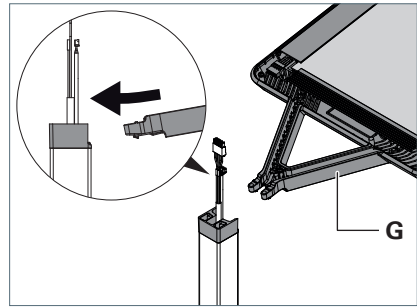

Fig. 3: Mounting the luminaire head.
- Insert the supporting arm **G** of the luminaire head tilted downwards slightly to the stop into the adapter, see Fig. 3.